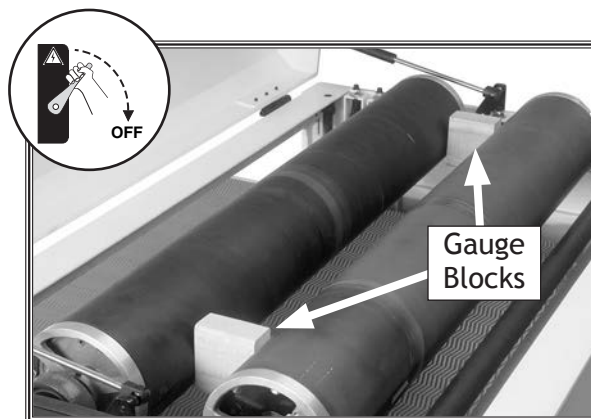

Figure 53. Example of small gauge block positioned between front and rear drums.
- Place the small gauge blocks on each end of the pressure roller between both drums as shown in **Figure 53**.